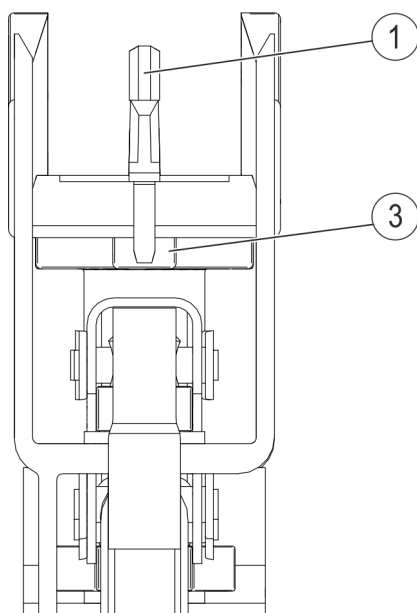

Fig. 135: Sliding contact (Pos. 1) sits in the contact plate (Pos. 3)
- The sliding contact (Pos. 1) must be between the contact plate (Pos. 3) and must not sit next to the contact plate (see Fig. 135).